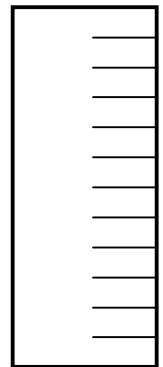

Figure 1
- b. Cut TripleSeal strip: 6” wide to wrap the pipe with 2” overlap. Every 1”, cut 3” flanges across the TripleSeal strip (Figure 1).